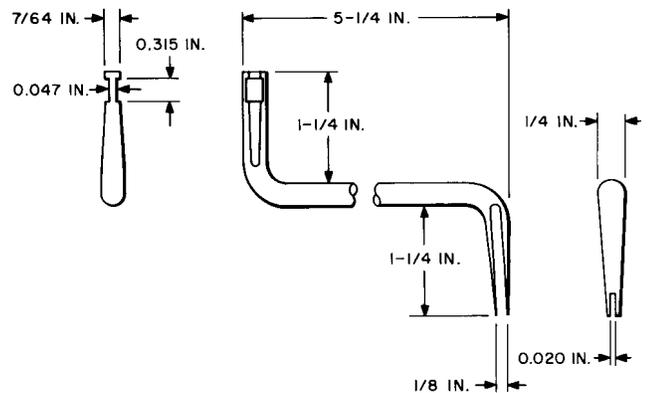

Fig. 13—R-2830 Adjuster Tool
2.13 **R-2830:** The R-2830 adjuster tool (Fig. 13) is used on panel multiple brushes in cases where the 380A tool cannot be used because of brush springs being too wide.